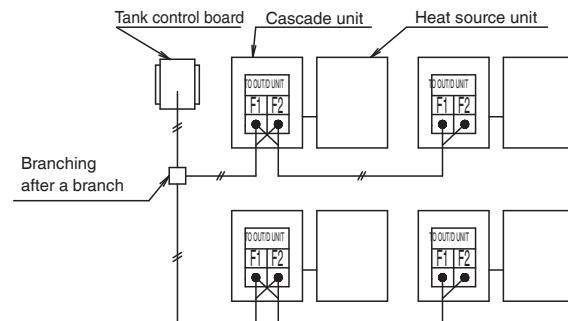

Fig. 20
- Branching after branching is not possible. (refer to Fig. 20)